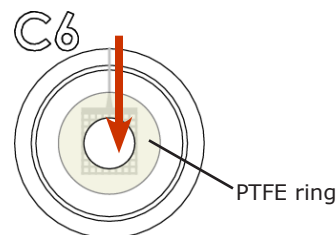

Figure 7. Well 6 cell inlet
3. Aspirate the PBS solution from well 6, including the bottom hole with the PTFE (polytetrafluoroethylene) ring around it (Figure 7).
2. Aspirate solution from cell inlet well 6 including the bottom hole with the PTFE ring around it. (Figure 7).
- Aspirate solution from cell inlet well 6 including the bottom hole with the PTFE ring around it at the bottom of the well (Figure 7).